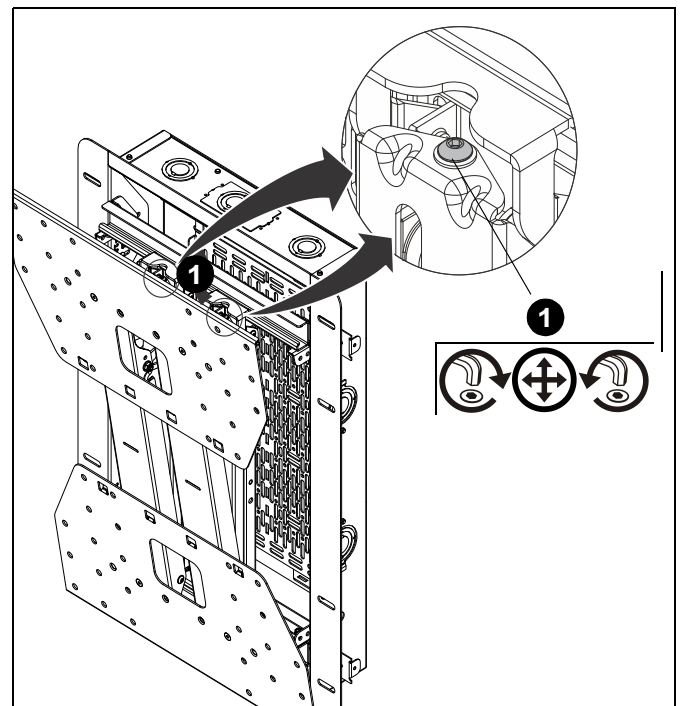

Figure 30
1. Adjust micro height-adjustment screws to make minor adjustments to height of each interface bracket (A and B). (See Figure 30)